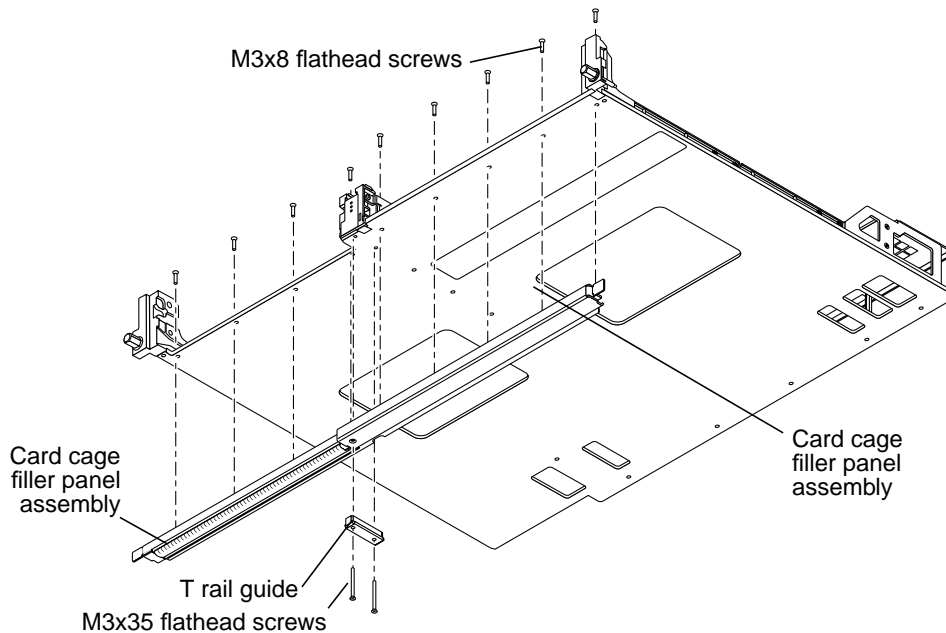

FIGURE 3 Removing the Card Cage Filler Panel
4. Remove the card cage filler panel assembly from the existing carrier plate and set aside. See Figure 3.